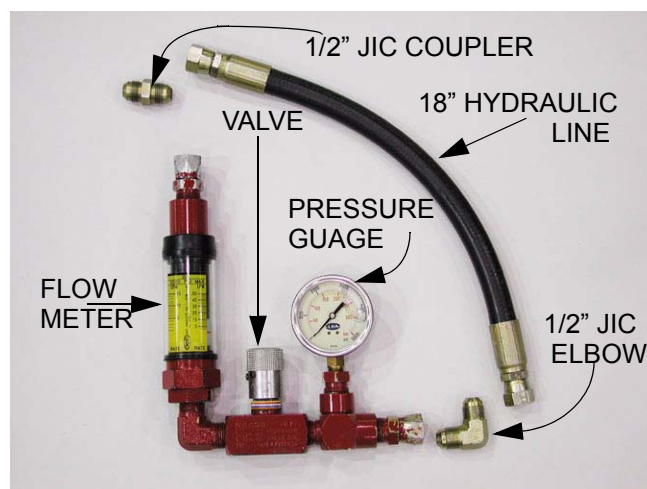

Figure 4.8
4.8. Install a 1/2" JIC double male coupler in one end of the 18" hydraulic line in the test kit. Install a 90 deg. 1/2" JIC double male elbow in the other end. See Figure 4.8.